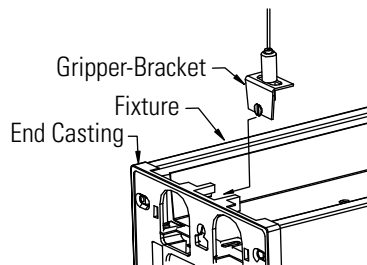

Figure 2
- A. Hook the gripper-bracket onto the end casting on both ends of the fixture. (Fig. 2)